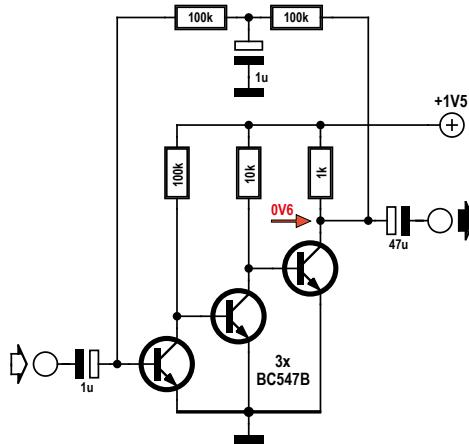

Figure 6. A three-stage, direct-coupled amplifier.
The position is even simpler with a three-stage amplifier because negative feedback can be applied direct from the output to the input (**Figure 6**). Each stage reverses the signal phase by 180 degrees. With a two-stage amplifier we needed a flip-flop to achieve feedback. On the other hand, one or three stages produce negative feedback, which stabilises the bias point.
**Figure 6** shows a circuit optimised for small supply voltages from 1 V upwards. Here, as in Figure 2, we see how greater amplification in the transistors leads to increased collector current flow in the third transistor and hence to larger voltage drop across its collector resistor. The collector-emitter voltage falls and consequently also the voltage dropped across the two 100 k $\Omega$  negative feedback resistors. This results finally in reduced base current, as explained previously above.